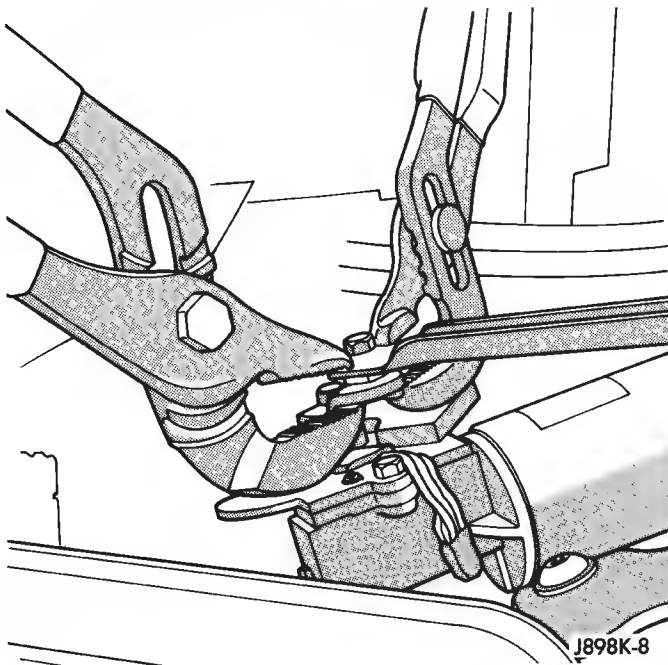

Fig. 11 Drive Link Install
(12) To install, assemble wiper drive link onto motor crank arm (Fig. 11).
(13) Install pivot and connecting link assembly in windshield frame.